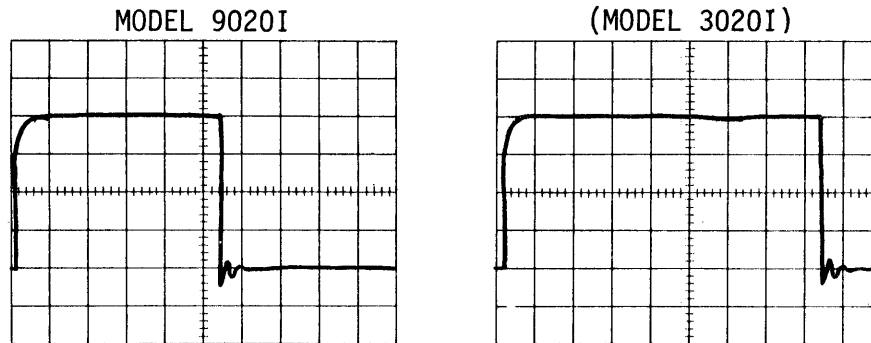

Figure A3-3. Read Data Level Timing
**A3.5.3 Read Data Level (RDL) Timing (Figure A3-3)**